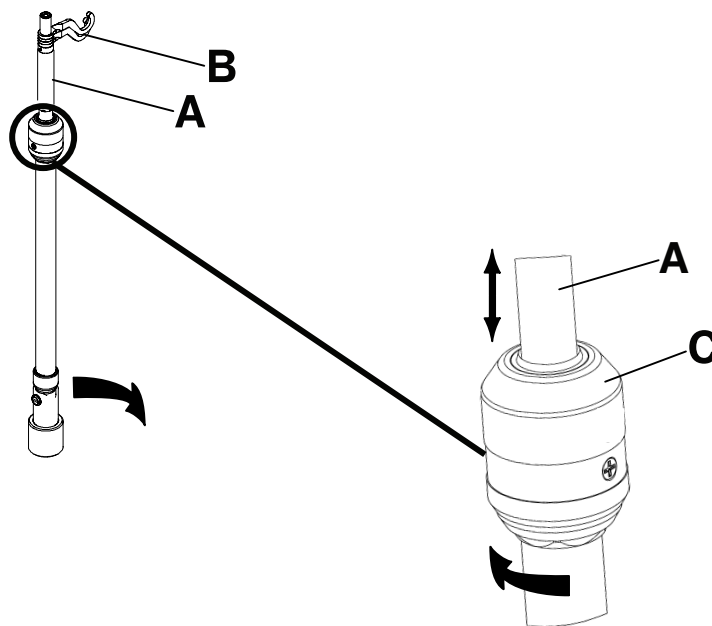

Figure 122: Operating the IV pole
3. To raise the height of the pole, pull up on the telescoping portion (A) until it locks into place at its fully raised position (Figure 122 on page 109).
4. Rotate the IV hangers to the desired position and hang the IV bags (B) (Figure 122 on page 109).
5. To lower the IV pole, turn the latch (C) until the telescoping portion lowers (Figure 122 on page 109).